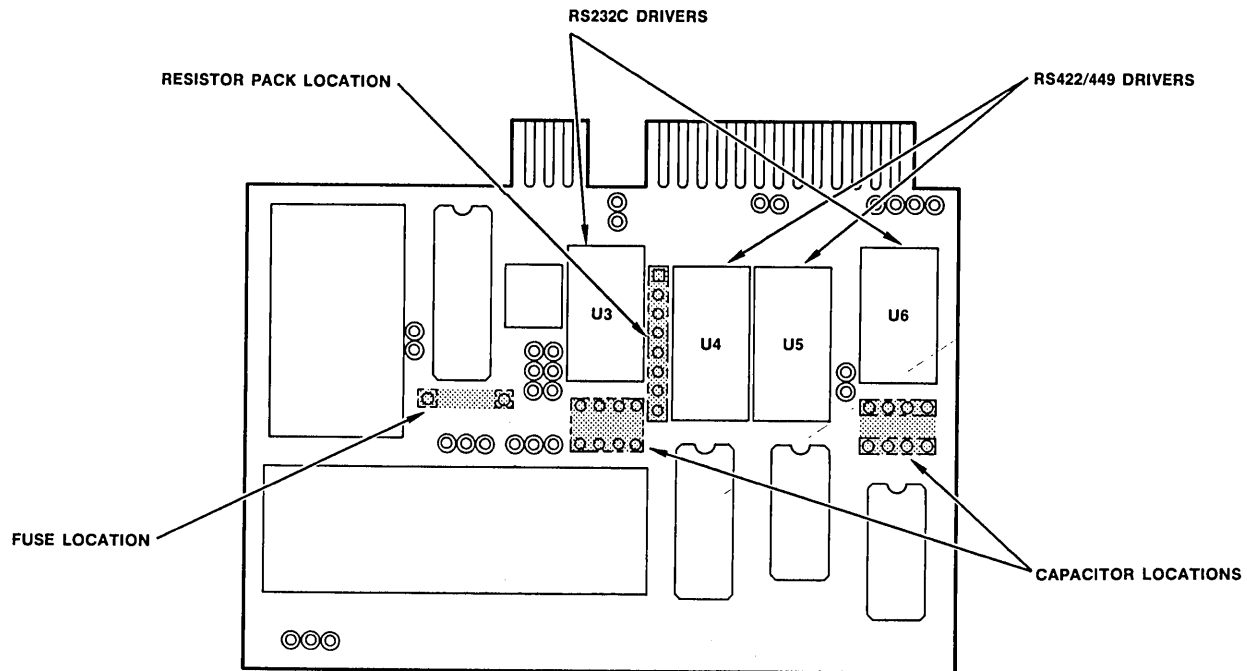

Figure 2-1. Component Location Drawing
Table 2-2 is a list of compatible capacitors for the iSBX 352 board and a cross reference list of various manufacturers. The capacitors must be installed into the eight locations labeled C11 through C18; refer to Figure 2-1 for the approximate location of the mounting holes on the board.
cross reference list of various manufacturers. The 8-resistor SIP must be installed into the location labeled RP1; refer to Figure 2-1 for an approximate location.
**FUSE.** The iSBX 352 board can be configured to provide +5V power to the J1 connector at pin-23. Whenever the +5V power is provided to an off-board device, install a fuse onto the iSBX 352 board in the mounting position labeled F1; refer to Figure 2-1 for an approximate location. Table 2-2 contain the name of the manufacturer of a compatible fuse and a part number.